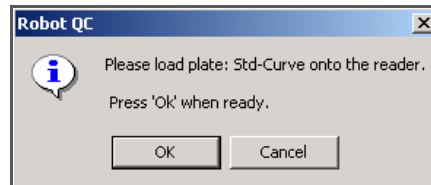

Figure 83 Std Curve Plate Prompt
4. When prompted, load the Standard Curve plate into the reader tray (Figure 83).